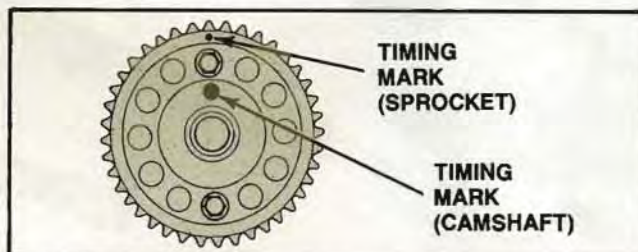

Figure 110. Installing Chain Sprocket to Camshaft
1. Install the chain sprockets to the camshafts (Fig. 110).